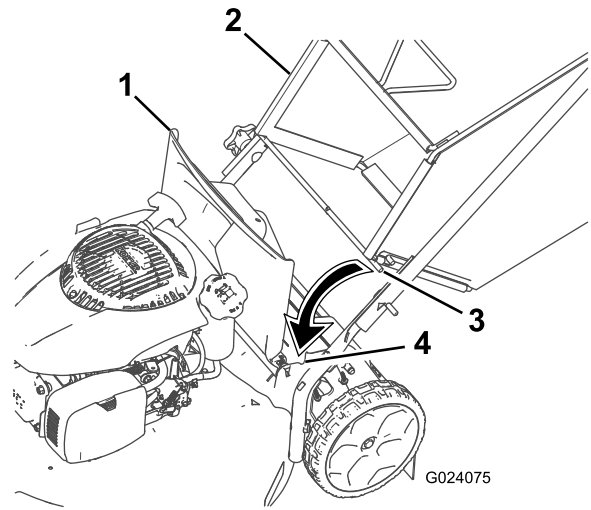

Figure 17
2. Insert the rod ends of the grass bag into the notches in the handle brackets (Figure 17).
1. Lift up the rear deflector (Figure 17).